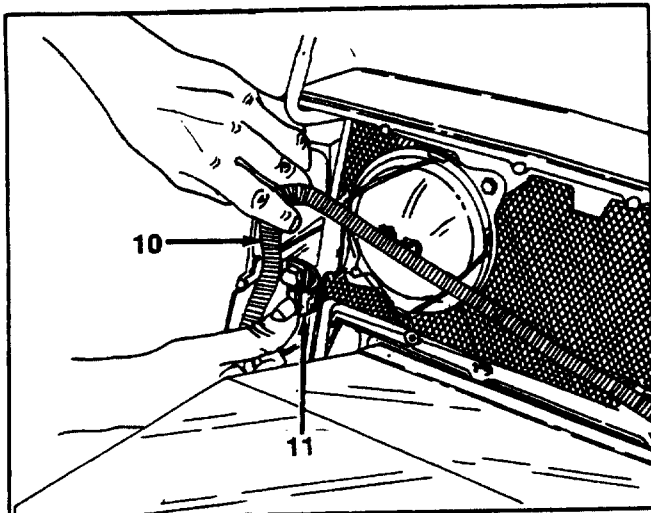

FIGURE 6.
7. Push the cable clamp at grille aside to allow the headlight wire harness to be removed. See figure 6.